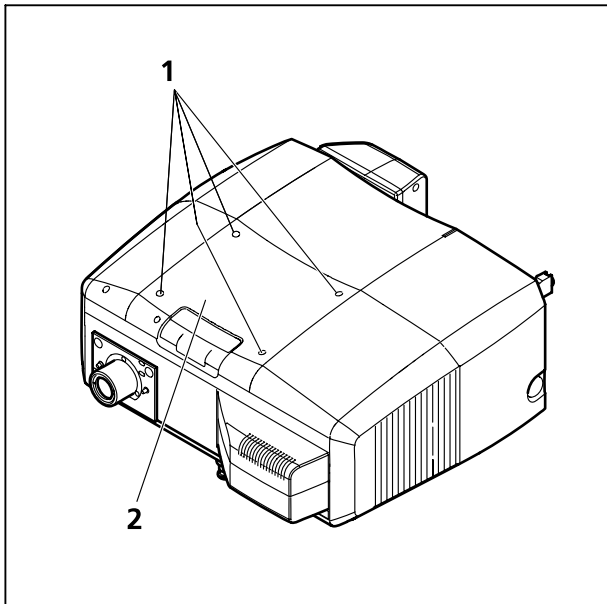

Fig. 1-29 Removing the cover
- Loosen the four fastening screws (Fig. 1-29/1).
- Remove the cover (Fig. 1-29/2) of the scanning module.